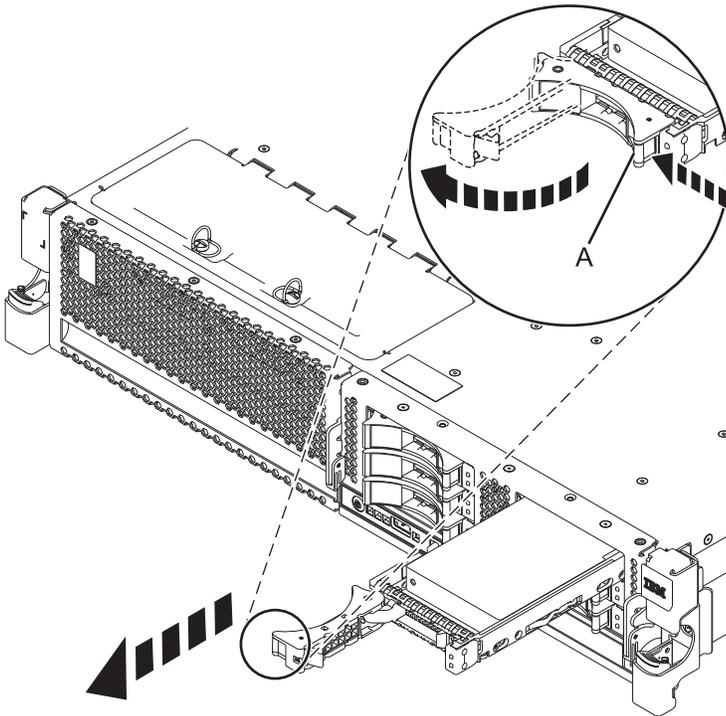

Figure 27. Removing a disk drive from the 8231-E2B, 8231-E1C, or 8231-E2C
1. Unlock the disk drive handle by squeezing it and pulling it out toward you, as shown in Figure 27.